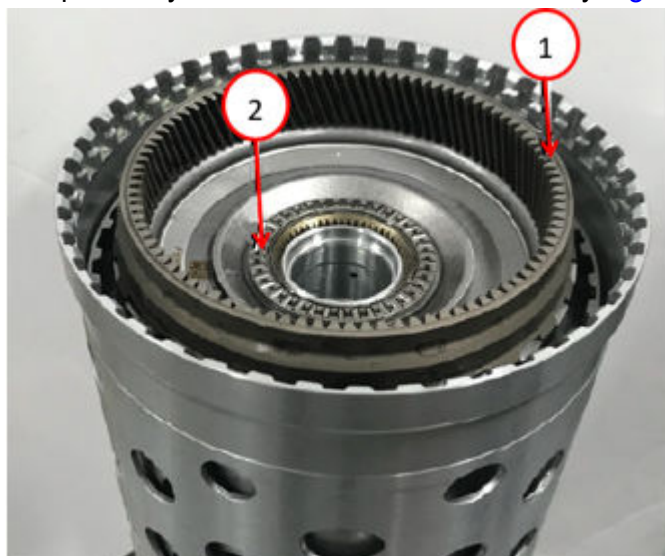

Fig. 24
36. Remove the P2 annulus/P3 sun gear from the drum assembly Fig. 24.